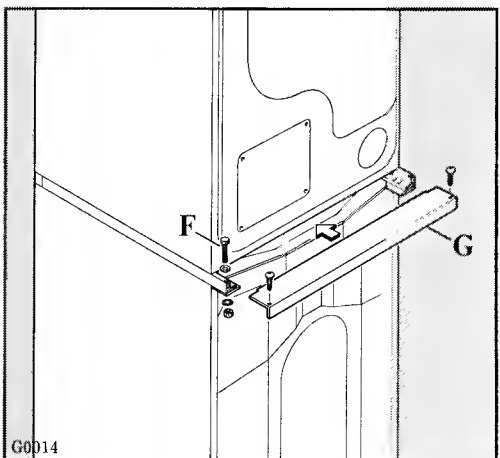

Fig. 12
9. By means of screws, nuts & washers (F - Fig. 12) fix the runners D to the washing machine.
10. Fit protection G and fix it as in Fig. 12.